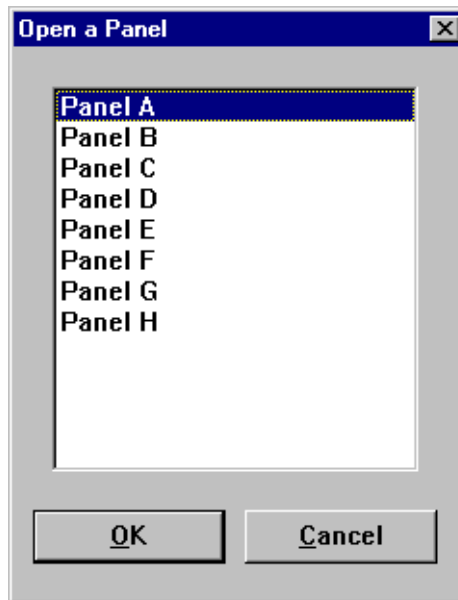

Figure 88. Open Panel dialog box
1. Choose **Window | Open Panel**. The Open a Panel dialog box appears (Figure 88).